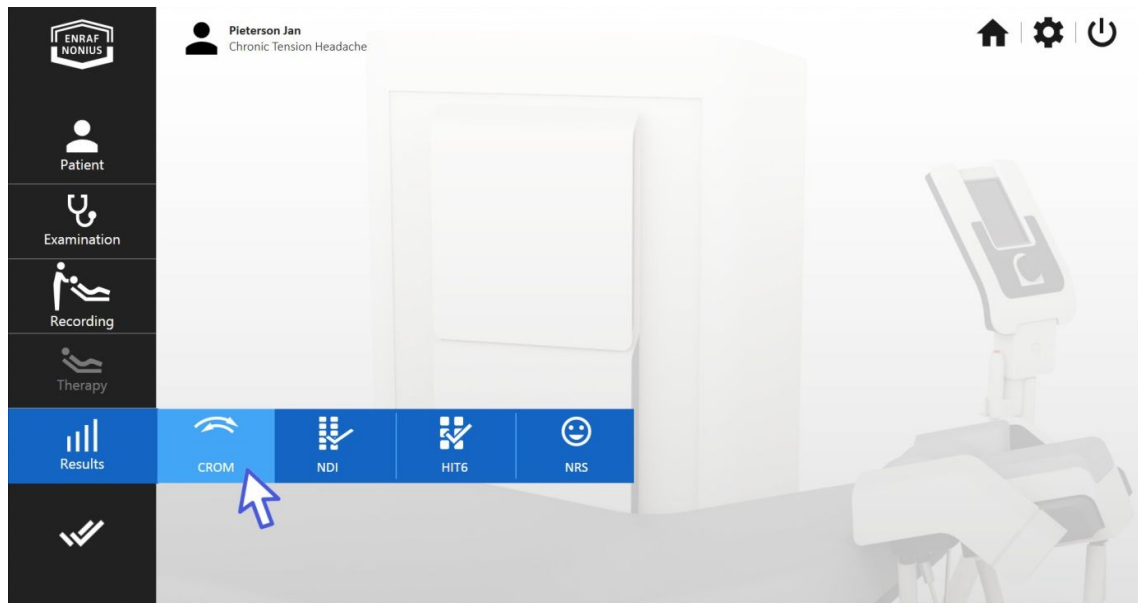

fig. 69
- Select **"Results"** and click **"CROM"** in the main menu (fig. 69).